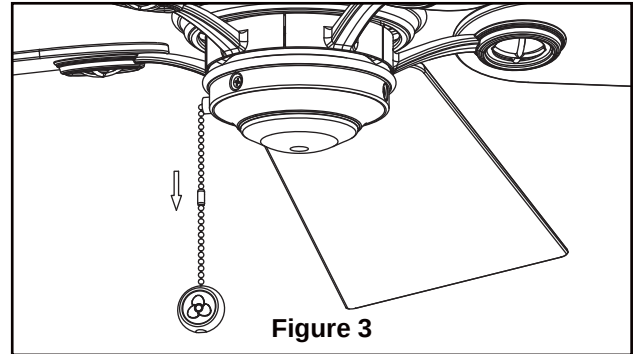

Figure 3
- ☐ 3. Check the operation of the fan by gently pulling on the fan pull chain. (Figure 3)